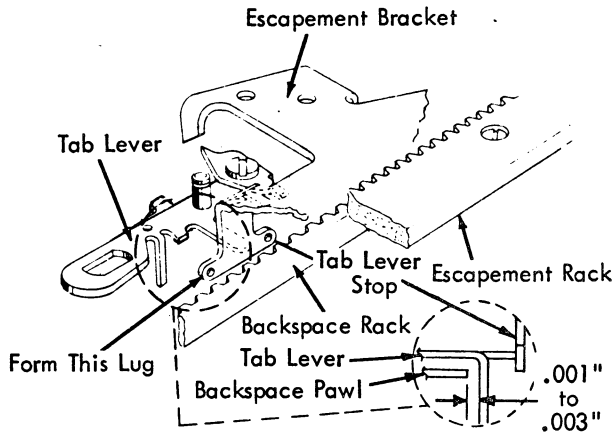

FIGURE 230. Tab Lever Stop
3. Tab Lever Stop (Fig. 230) - Form the stop on the escapement bracket to obtain .001" - .006" clearance between the vertical lug on the tab lever and the back-space pawl when the tab lever is at rest and the back-space pawl is fully seated in its rack.